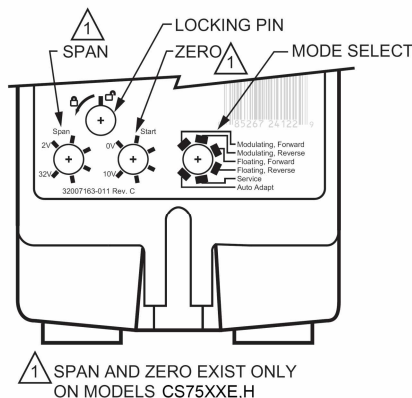

Fig. 4. Dials for control signal and zero/span.
NOTE: Selections are made using a dial that appears on both the front and back of the actuator (see Fig. 4). For available options, see Table 5.
These actuators have the capability of adjustable Zero and Span. Fig. 4 shows the dials. These dials are present only on the Enhanced Modulating models. A basic description of these dials follows:
2. Turn the Zero dial (see Fig. 4) past the desired start point.
5. Turn the Span dial (see Fig. 4) to the minimum setting (2 VDC).